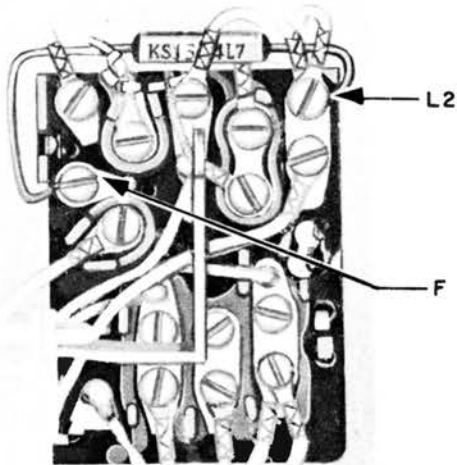

Fig. 8 - 500C, D or 501C, D Telephone Set, KS-13814, List 7 Capacitor Installed
4.05 The KS-13814, List 7 capacitor is installed in the 500C, D and 501C, D telephone sets as shown in Fig. 8. It is connected across the F and L2 terminals of the 425B network. If the set is used as the tip station on 2-party message rate service, the capacitor should be connected across L1 and L2 of the 425B network. Cover the exposed portions of the capacitor leads with tubular insulation. For low-frequency interference, another KS-13814, List 7 capacitor may be needed across terminals R and RR on the 425B network.